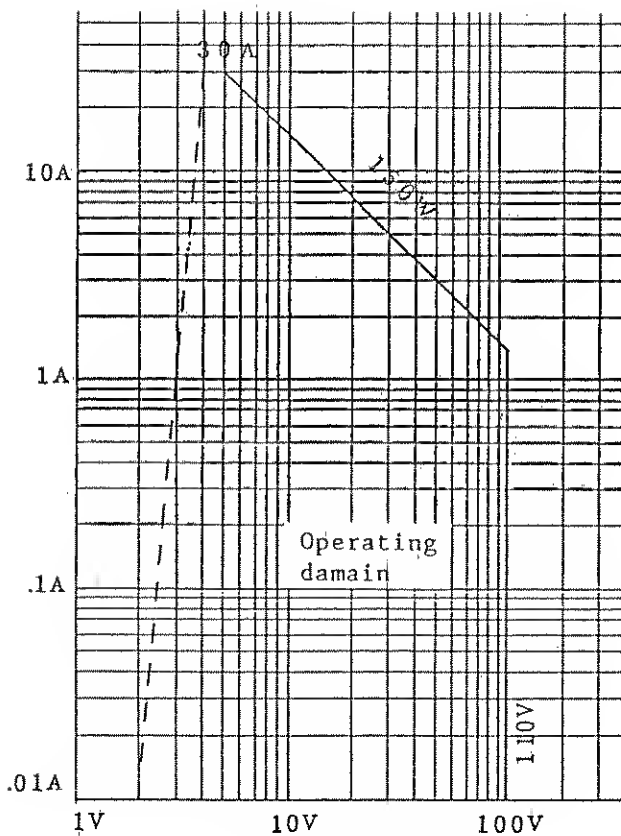

Figure 2.1.1
- b. Do not operate outside the DC input range of 4 VDC to 110 VDC. (See Figure 2.1.1).